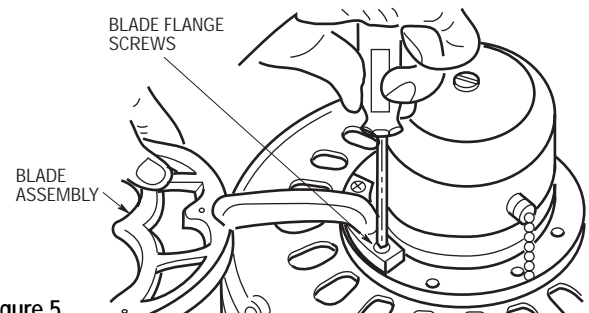

Figure 5
- 10. Attach blade assembly to motor hub using two 1/4-20 x 1/2" Phillips oval head flange screws. Make sure the screws are tightened securely (Figure 5). Repeat this procedure for other four blade assemblies.